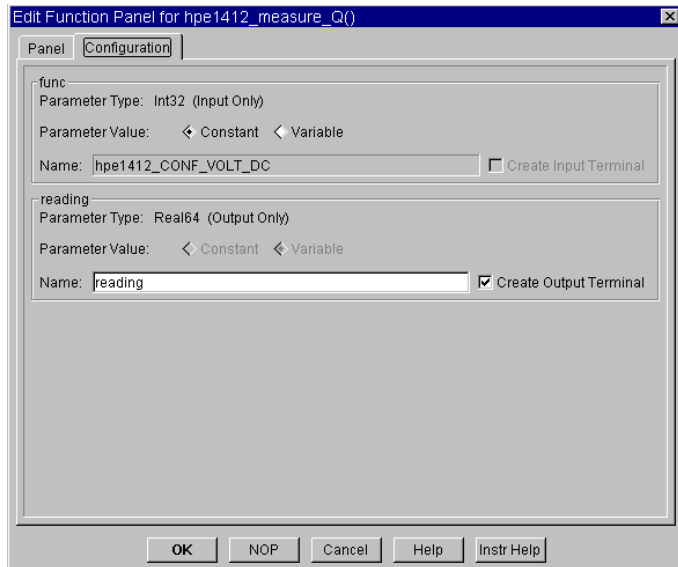

Figure 109 Configuration Folder in Edit Function Panel
- 8 In the To/From Instrument object, double-click to add a function and select Take Measurement under Measure. Click on the Configuration folder to display the dialog box shown in Figure 109.